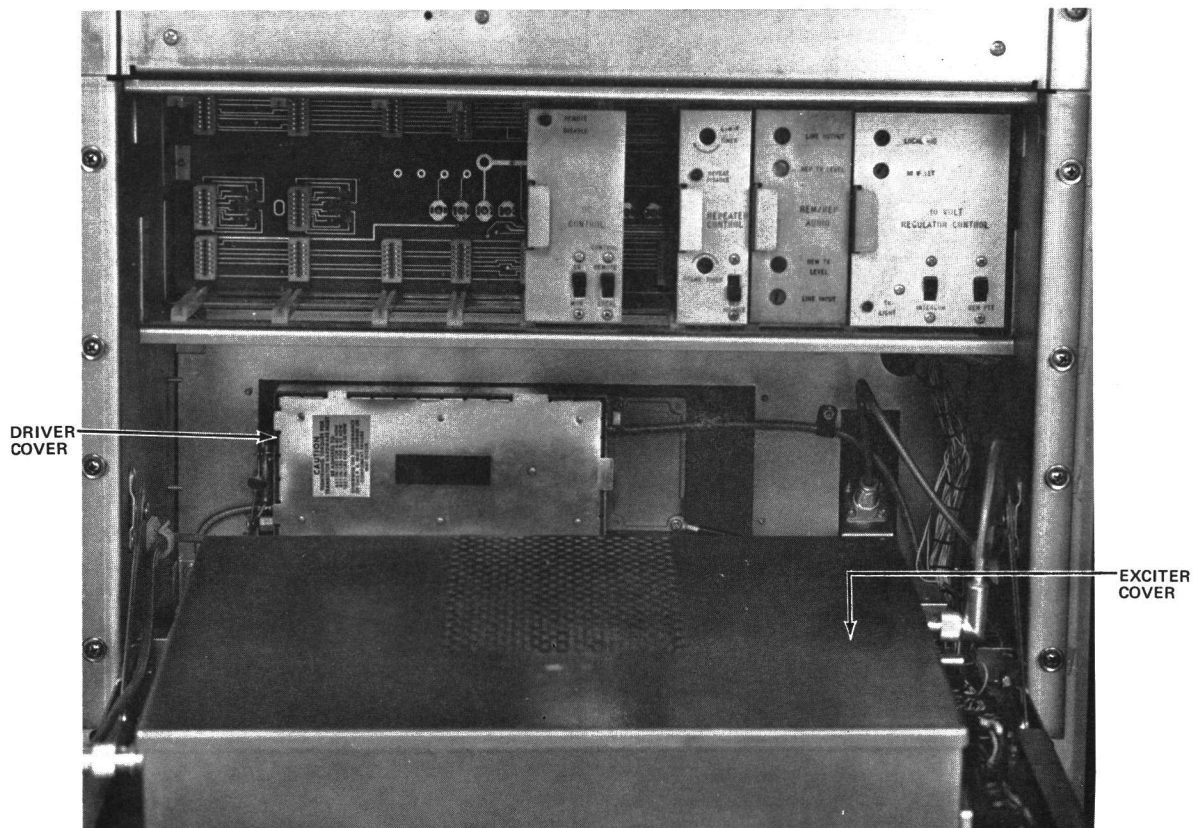

Figure 2 - Access to Exciter and Driver Covers, Front View
3. Remove cover from the radio housing. See Figure 2.